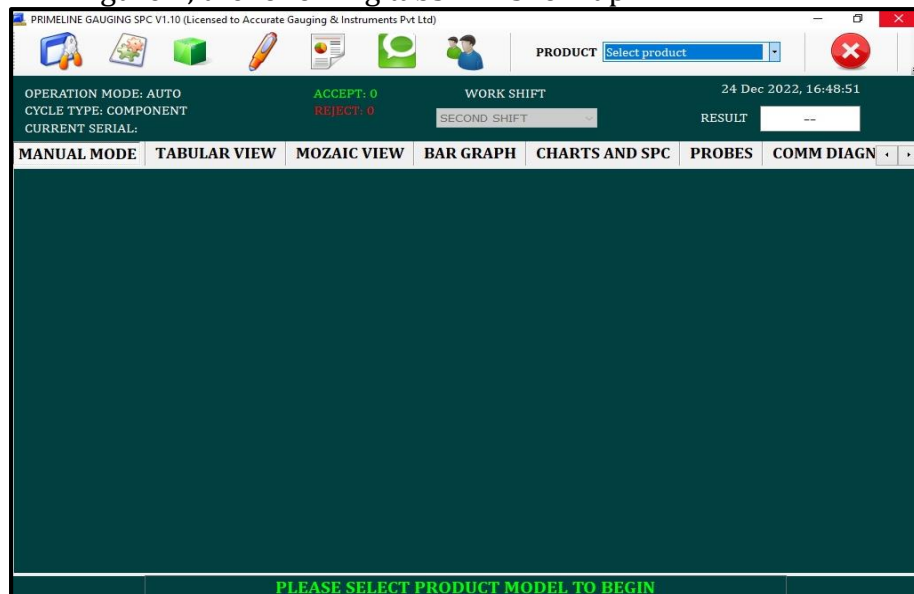

Figure 2
- After Admin and Operator login, the main page will appear as shown in figure 2. After the main window opens, click on the Settings button to set the settings.
On the main screen, select the product. The operation modes, cycle types, current serial numbers, accept and reject product counts, shift starting, and final results will be shown. As shown in figure 2, the following tabs will show up.